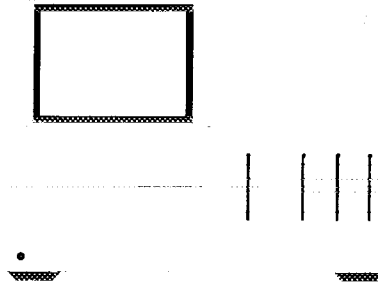

Figure 1-22. Transmission Load Match Connections
- 11** Connect the equipment as shown in Figure 1-22 and press PRESET.